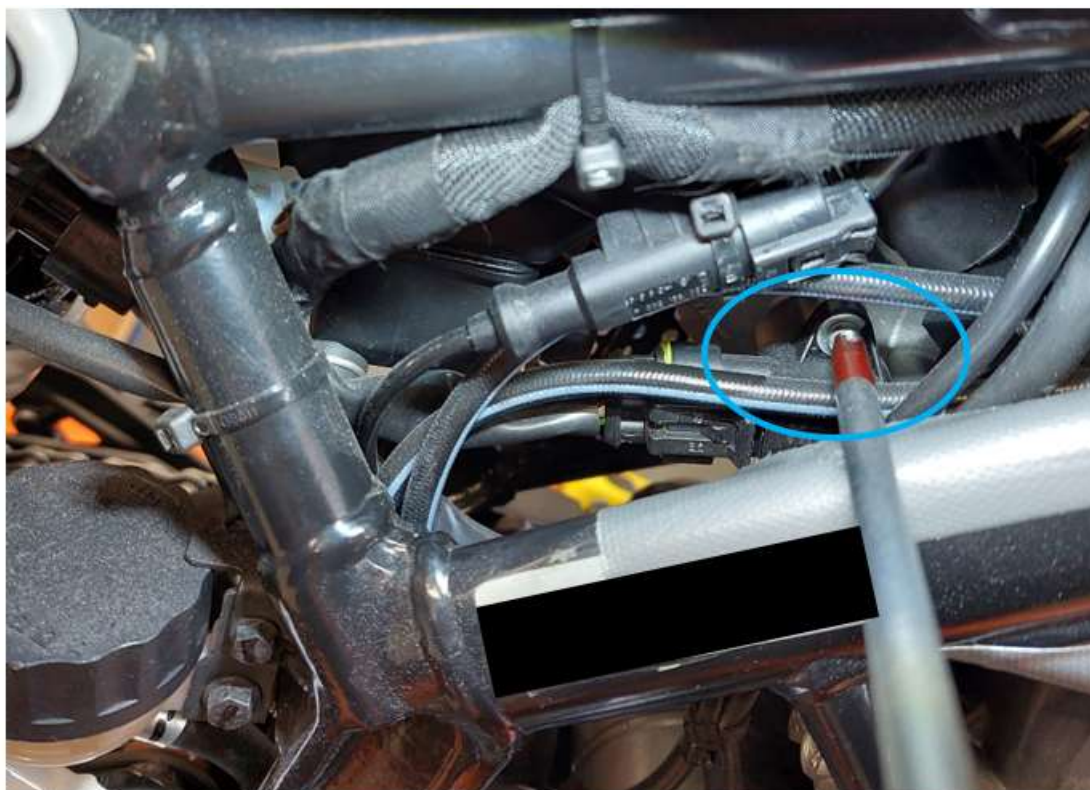

Fig. 3 – Throttle position sensor plug-in connection
4. Rotate the throttle body to the right or left so that the throttle position sensor screws are easier to access (see Fig. 3).